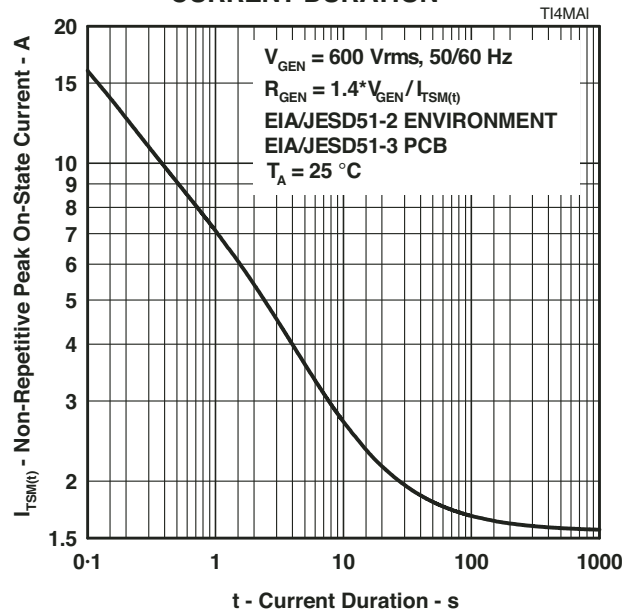

Figure 9.
5. EIA/JESD51-2 environment and EIA/JESD51-3 PCB with standard footprint dimensions connected with 5 A rated printed wiring track widths. See Figure 9 for the current ratings at other durations. Derate current values at $-0.61\% / ^\circ\text{C}$ for ambient temperatures above 25°C .
The protector can withstand currents applied for times not exceeding those shown in Figure 9. Currents that exceed these times must be terminated or reduced to avoid protector failure. Fuses, PTC (Positive Temperature Coefficient) thermistors and fusible resistors are over-current protection devices which can be used to reduce the current flow. Protective fuses may range from a few hundred milliamperes to one ampere. In some cases, it may be necessary to add some extra series resistance to prevent the fuse opening during impulse testing. The current versus time characteristic of the overcurrent protector must be below the line shown in Figure 9. In some cases, there may be a further time limit imposed by the test standard (e.g. UL 1459 wiring simulator failure).